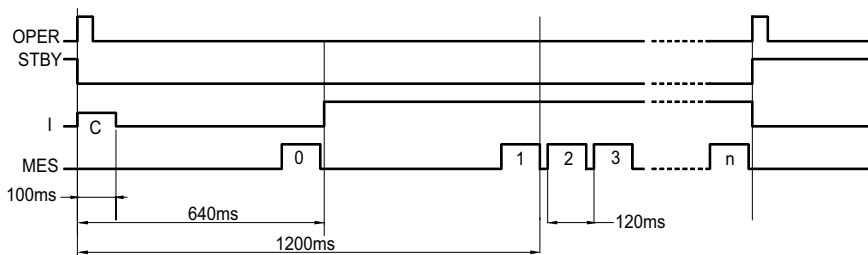

Figure 4-5
5. The current (I) is switched on at the start of a measurement and remains on continuously until the unit is manually returned to the Stand-by state by pressing the **START/STOP** button.
7. All subsequent measurements comprise only a V_n measurement as V_0 remains in memory. The timing sequence for measurement is shown in Figure 4-5.